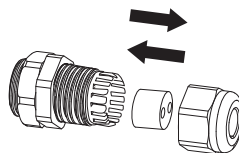

Figure 2. Replacing the PG9 Gland Bushing
- b. If installing duplex fiber cable, you must replace the rubber bushing of the PG9 gland with the two-hole bushing (supplied). Refer to Figure 2 on page 10.